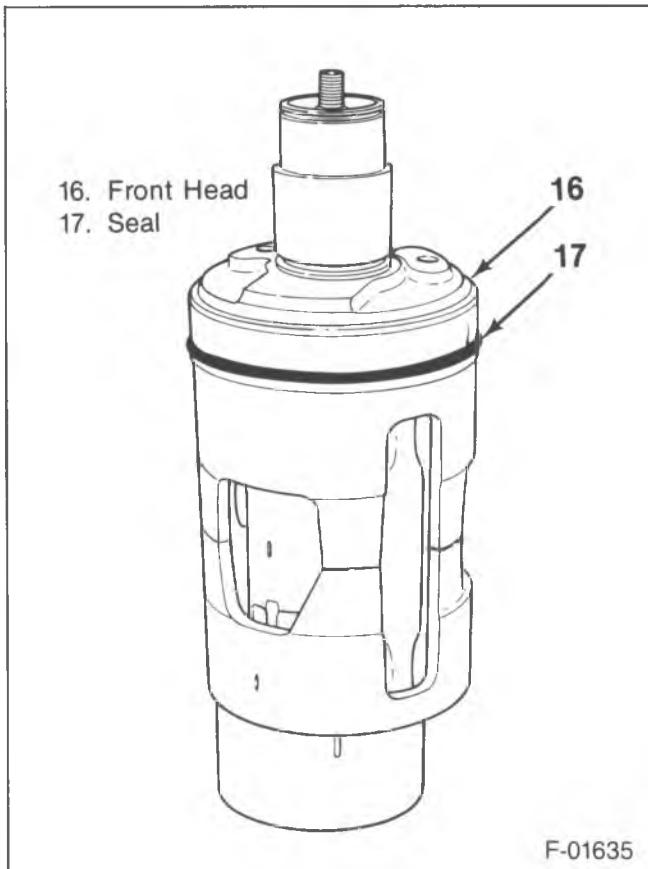
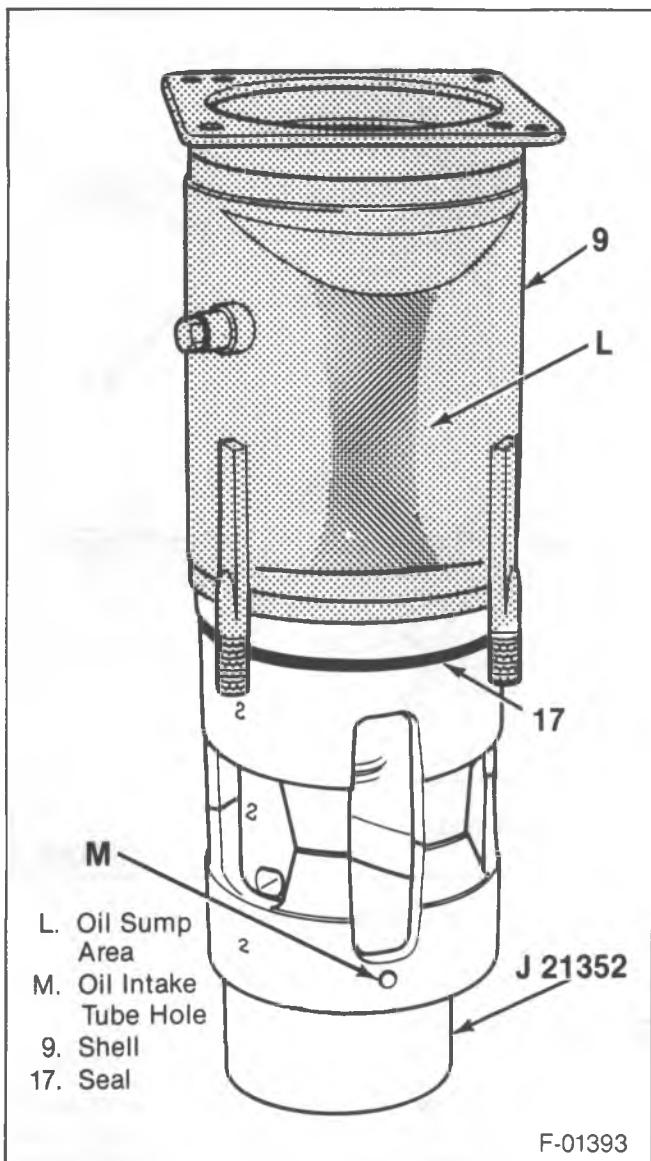
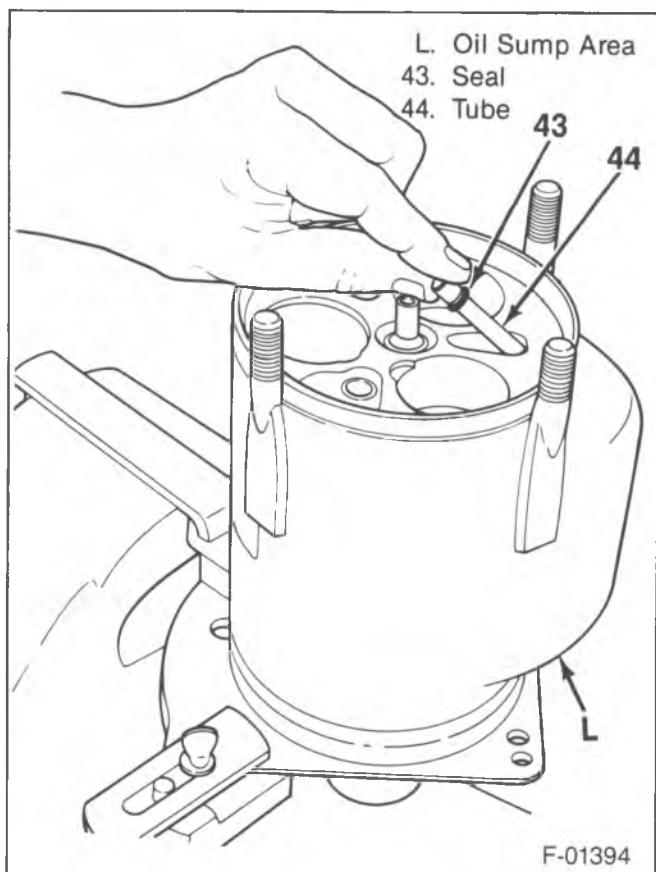

Figure 47—Installing the Front Head Seal
Figure 48—Installing the Compressor Shell
Figure 49—Installing the Oil Pick-Up Tube
- Do not rotate the front head (16) to line up with the dowel pins because this will contact the reed container.
14. Seal (17) to the front head (16) (figure 47).
- Lubricate the seal (17) and groove with clean 525 viscosity refrigerant oil.
15. Shell (9) to the internal assembly (figure 48).
- Coat the inside of the shell (9) with clean 525 viscosity refrigerant oil.
- Position the shell (9) on the internal assembly. Rest the shell (9) on the seal.
- With the flat side of a small screwdriver, position the seal (17) in a round, circle shape to the inside of the shell (9).
- Slide the shell (9) down. Line up the oil sump with the oil intake tube hole.
16. New dowel pins (45) to the rear cylinder half.
17. Seal (43) to oil pick-up tube (44).
18. Oil pick-up tube (44) to the compressor (figure 49).
- Lubricate the oil pick-up tube (44) with clean 525 viscosity refrigerant oil.
- Place the oil pick-up tube (44) in the cavity.
- Rotate the compressor assembly to align the tube (44) with the hole in the shell baffle.